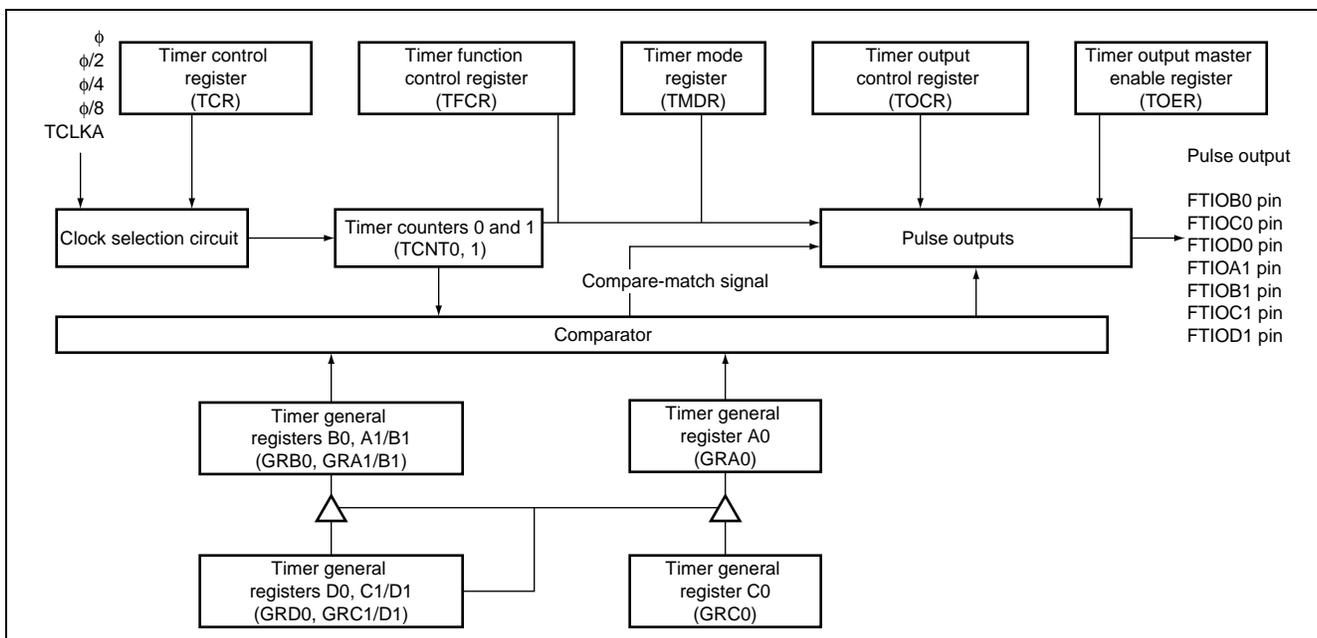

Figure 2.1 Timer Z Channels 0 and 1 in the Complementary PWM Mode
1) Figure 2.1 is a block diagram of the way channels 0 and 1 of timer Z are used in this sample task.